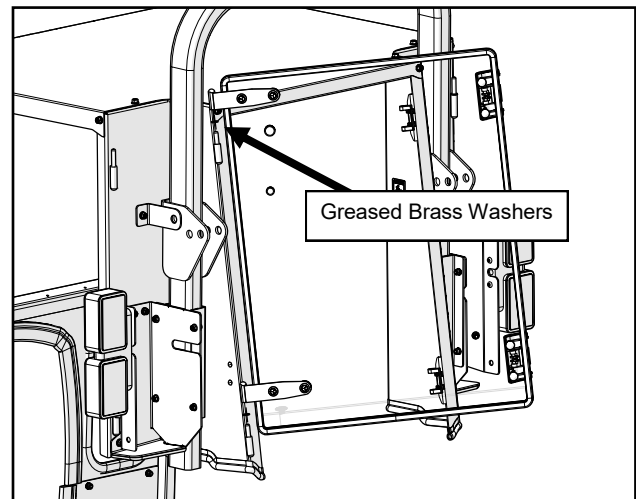

Fig. 11.2 (Install Rear Window, CA cab only)
11.2 Hang the rear window. See Figure 11.2.